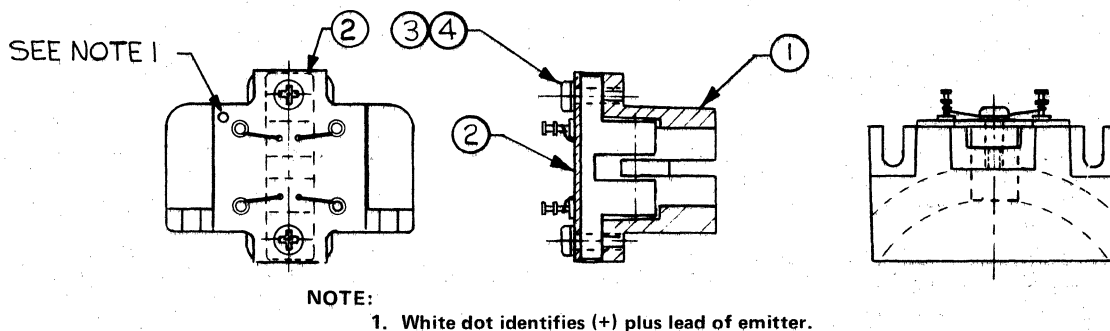

Figure 7-8. Photo Cell Housing and Terminal Board
9. PHOTO CELL ASSEMBLY - Refer to Figure 7-8